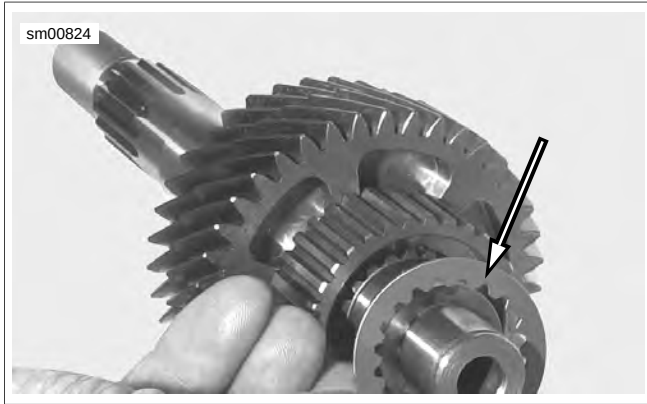

Figure 6-121. Splined Washer
5. See Figure 6-121. Remove splined washer.